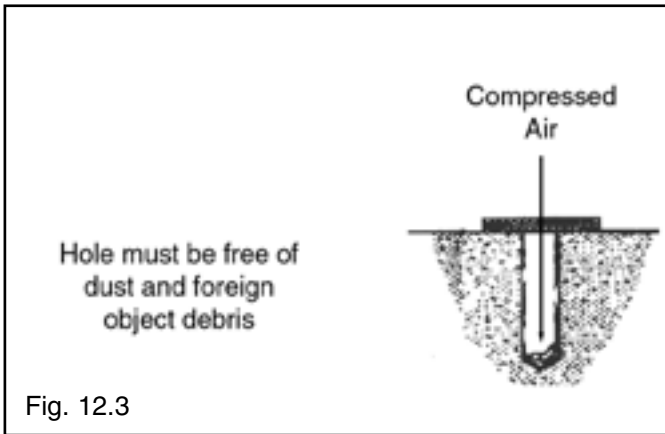

Fig. 12.3
4. After drilling the anchor holes, remove the dust thoroughly from each hole using compressed air and/or wire brush. (See Fig 12.3)